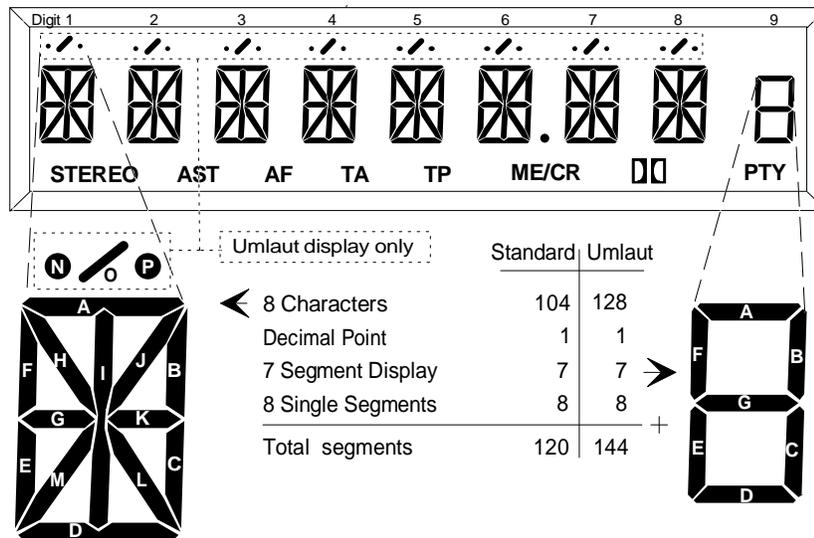

Figure 10 Liquid Crystal Display (LCD) layout
The Liquid Crystal Display (LCD) is driven by either one PCF8576 or two PCF8566's. Figure 10 shows all the segments of the display. To support the RDS programme service name (PS) feature, the display is equipped with 8 alpha numeric characters. With 13 segments per character, display is possible of all required RDS characters (capitals only); with 16 segments per character, umlauts and the accent can be displayed as well.